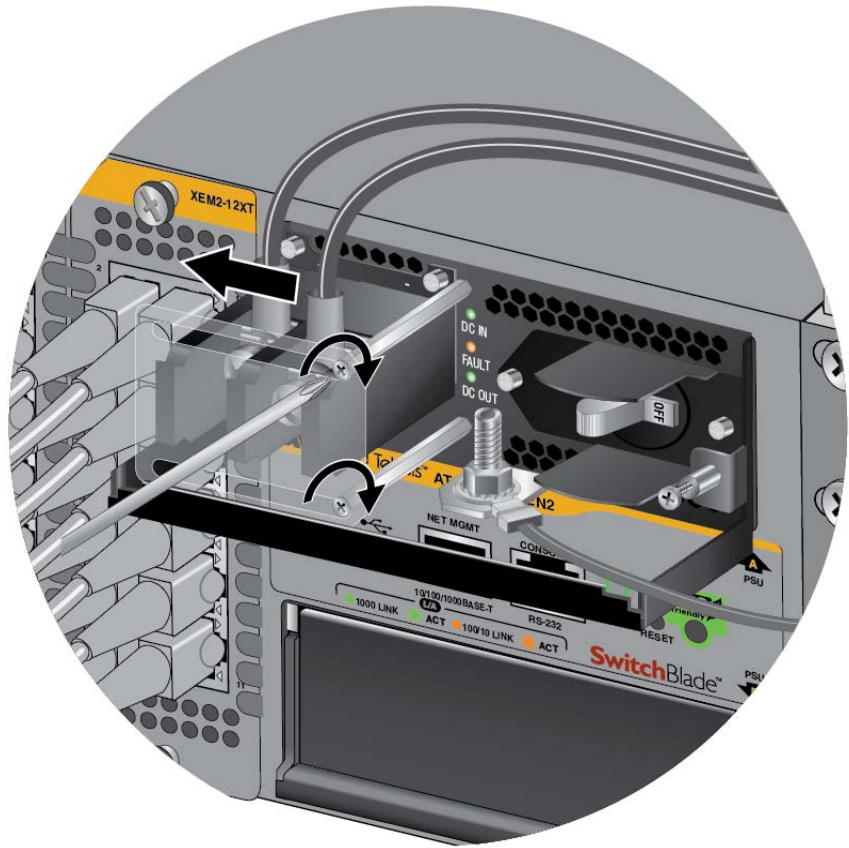

Figure 74. Closing the Plastic Cover over the Terminal Connectors
8. Slide the plastic cover to the left and lightly tighten the two screws with a #1 Phillips-head screwdriver to secure the cover. See Figure 74 on page 109. You might need to lift the locking handle slightly to access the bottom screw.
6. Slide the plastic cover to the left and lightly tighten the two screws with a #1 Phillips-head screwdriver to secure the cover. See Figure 74 on page 109. You might need to lift the locking handle slightly to access the bottom screw.